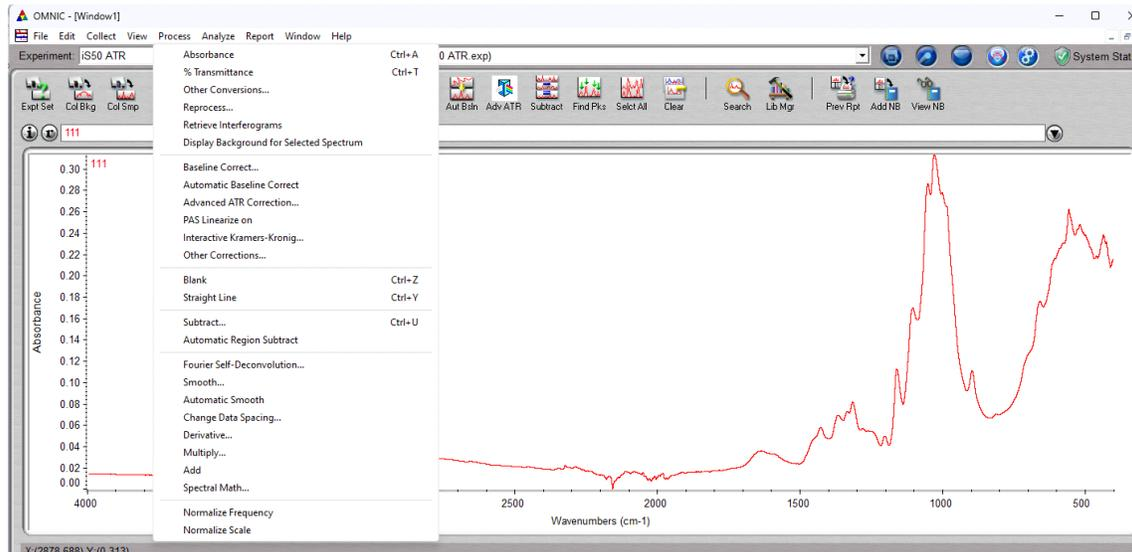

Figure 22. Process drop-down menu
15. Fig 22 is absorbance spectra in ATR mode. To convert it into %Transmission, Go to PROCESS and select transmission from the drop-down menu.